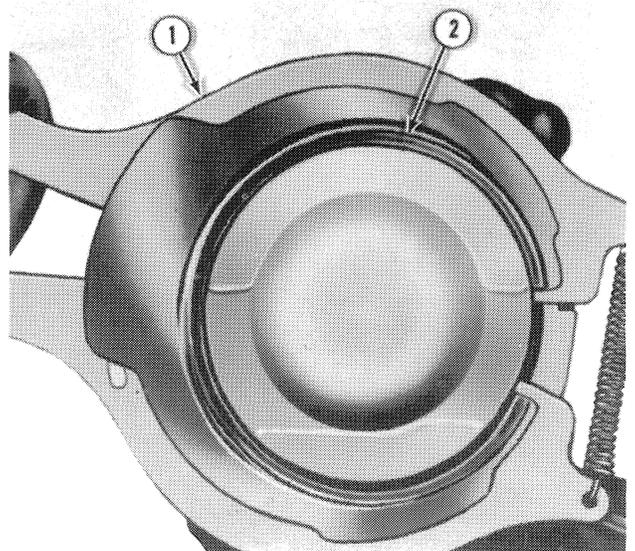

Figure 36
6. Remove the piston rings from the pistons with a piston ring expander or other suitable means, as shown in Figure 36.
NOTE: When installing the piston rings, it is recommended that a piston ring expander be used as shown in Figure 36. This tool will prevent over-expansion of the ring, and will expand the ring to a true circle to avoid distortion. The rings supplied in Service Ring Kits differ from the standard size rings used in production. Because of differences the following points should be noted when installing new sets of rings, whether they be standard or oversize.